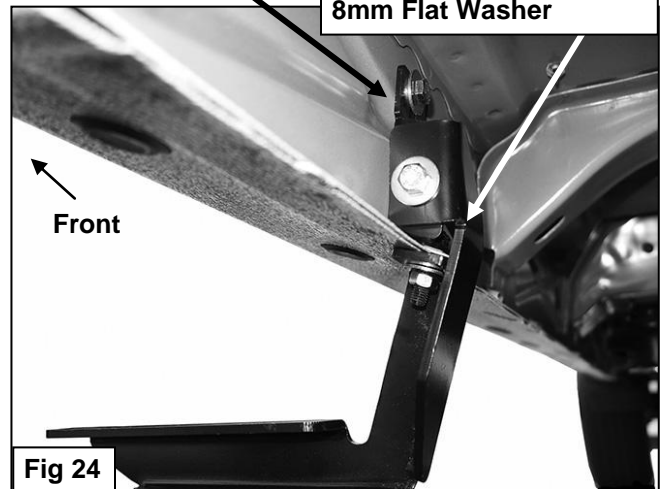

Fig 24
- a. **Models with a weld-nut:** Slide the Bracket over the weld-nut, **(Figure 16)**. Attach the Lower Bracket to the bottom of the body and weld-nut with (1) 8mm x 25mm Hex Bolt, (1) 8mm Lock Washer and (1) 8mm Flat Washer, **(Figure 24)**. Leave loose at this time.